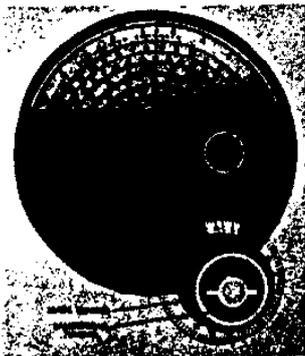
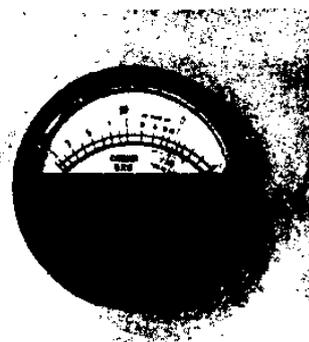

Figure 6. View showing Bandsread and Main Tuning Dials
Figure 7. View showing Carrier Meter
5. Set the bandspread (fine tuning) dial to 0 (See Fig. 6) by turning the outer or metal knob on the tuning assembly. If the bandspread dial doesn't move, operate the locking knob (See Fig. 6) by turning to the right to unlock the bandspread dial. After setting the bandspread dial to zero, again turn the locking knob to the right to lock the bandspread.
6. Now tune in stations by tuning with the main control knob. (See Fig. 6.) As the station is tuned in, the carrier meter needle (See Fig. 7) will move from the left side of the scale to the
8. The frequency calibration on the main tuning dial for the broadcast band is shown on the scale at the bottom of the dial. (See Fig. 6.) This scale as all other scales is calibrated in mc (megacycles) and tunes over the broadcast band from .54 to 1.62 mc (in kilocycles 540 to 1620 kc). For example, radio station WGN Chicago is 720 kc or .72 mc. Just divide kc by 1000 to get mc.